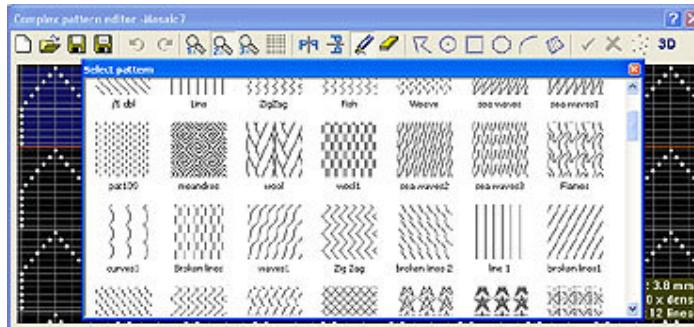

Figure 9.15: Pattern editor
3. Click the first point and then the second to define the insertion reference line points of the clip. With the Ctrl pressed while clicking you can define reference points exactly in the 0°, 90°, 180° or 270° degrees. After inserting the second reference point the “Define symbol” dialog box will appear (Figure 9.15).